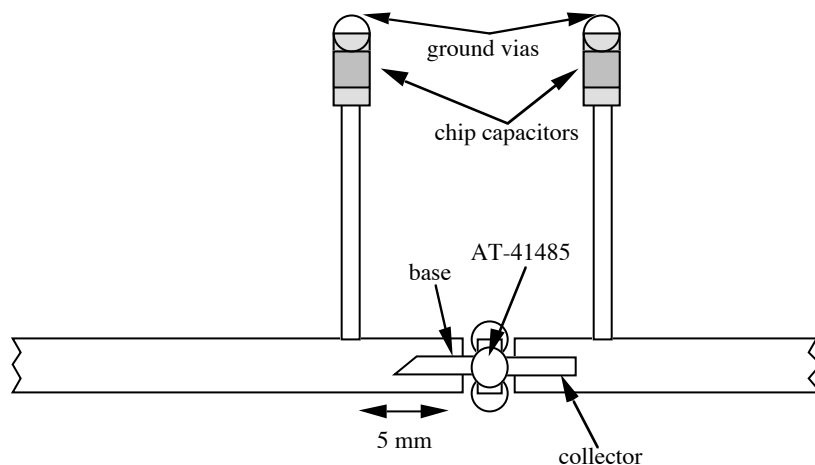
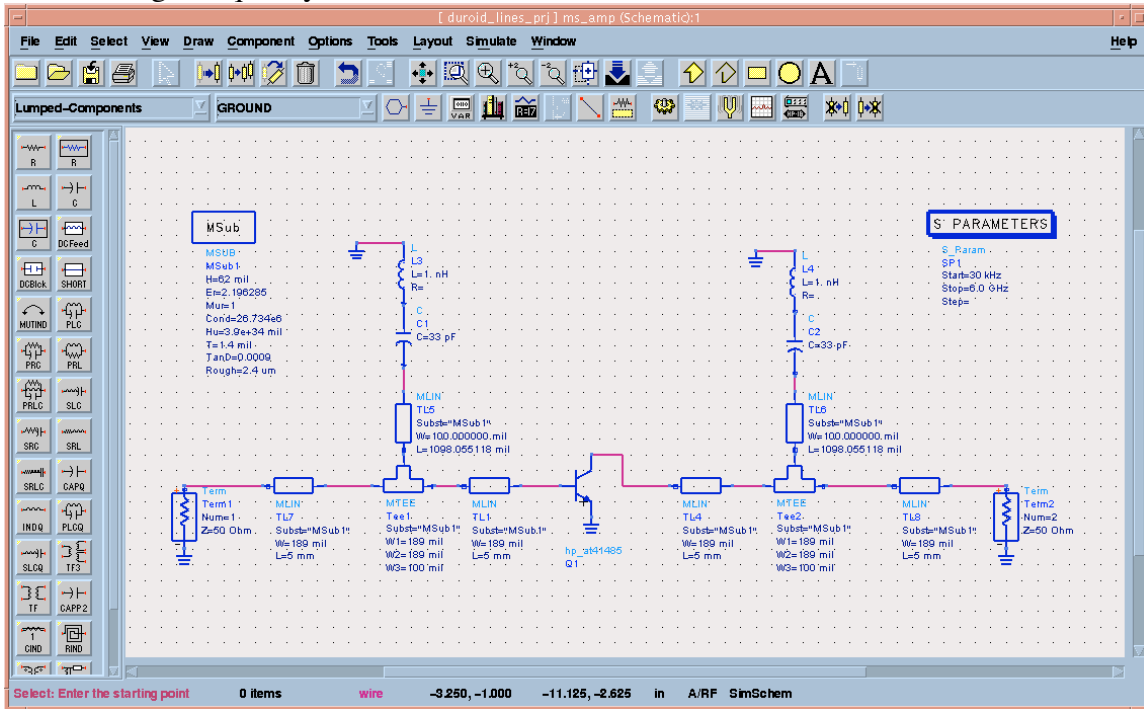

Figure 2. Physical layout of input and output transmission lines, bias stubs, and transistor.
Figure 3. Sample schematic showing attachment of bias stubs.
- 1.) With the bias stubs designed, we're ready to begin laying out the design of the amplifier circuit. Figure 2 below shows a view of the bias portion of the completed amplifier. Use lincalc to find the dimensions (width only) for the base and collector input lines, assuming a $50\ \Omega$ characteristic impedance at the design frequency. At this point the length of these lines is arbitrary and will be set later in the design process. Insert the transistor equivalent subcircuit, connect it to the input and output lines, and attach the bias stubs you've designed to the line at least 5 mm away from the transistor. To insert the transistor, click on the "library" icon (looks like a small bookshelf), and click on the "Workspace Libraries" to open it and select the library you created when you first opened the workspace. Right-click on the component name you used when you saved the transistor schematic, and choose "Place component." Mouse over to the schematic window you want to insert the transistor into, and click where the transistor should go. Figure 3 shows an example circuit. As shown in Figure 3, you can use the MTEE element to connect the bias stubs to the input and output line for accurate simulation of the transition there.